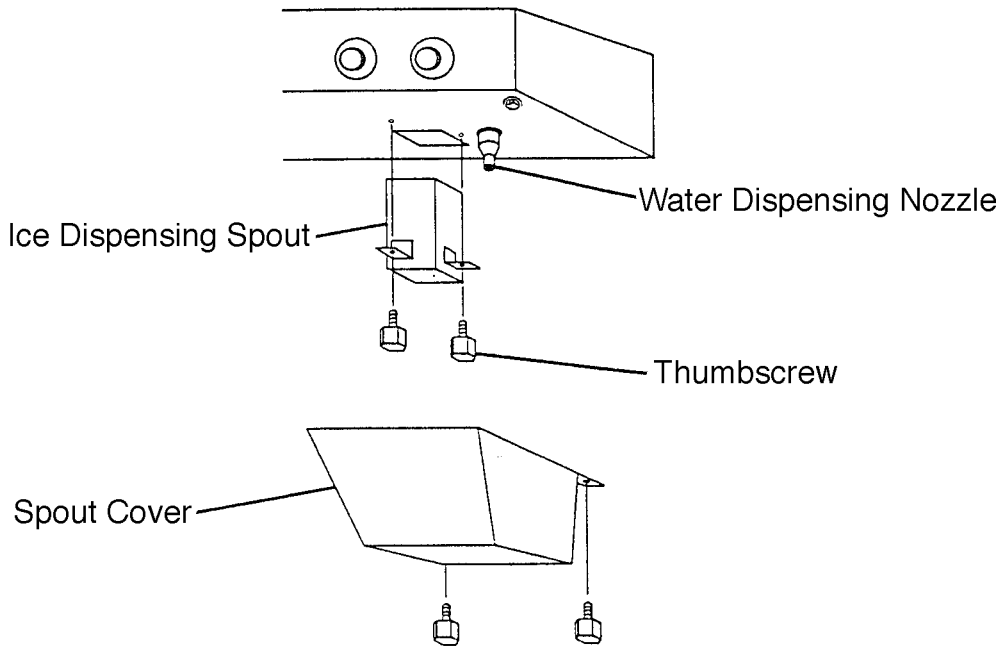

Fig. 12
- 6) Remove the Spout Cover, black Ice Dispensing Spout and Water Dispensing Nozzle. See Fig. 12.